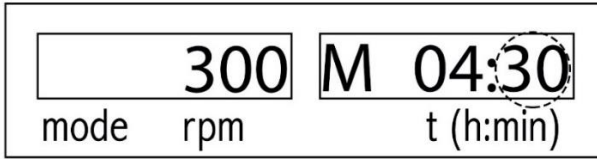

Figure 5: Operating Mode A – setting the minute
- By pushing the right rotary knob, the minute variable will be flashing and the minute value will be set by rotating the same rotary knob. (in figure 5 The dashed line is a flashing variable in the display).